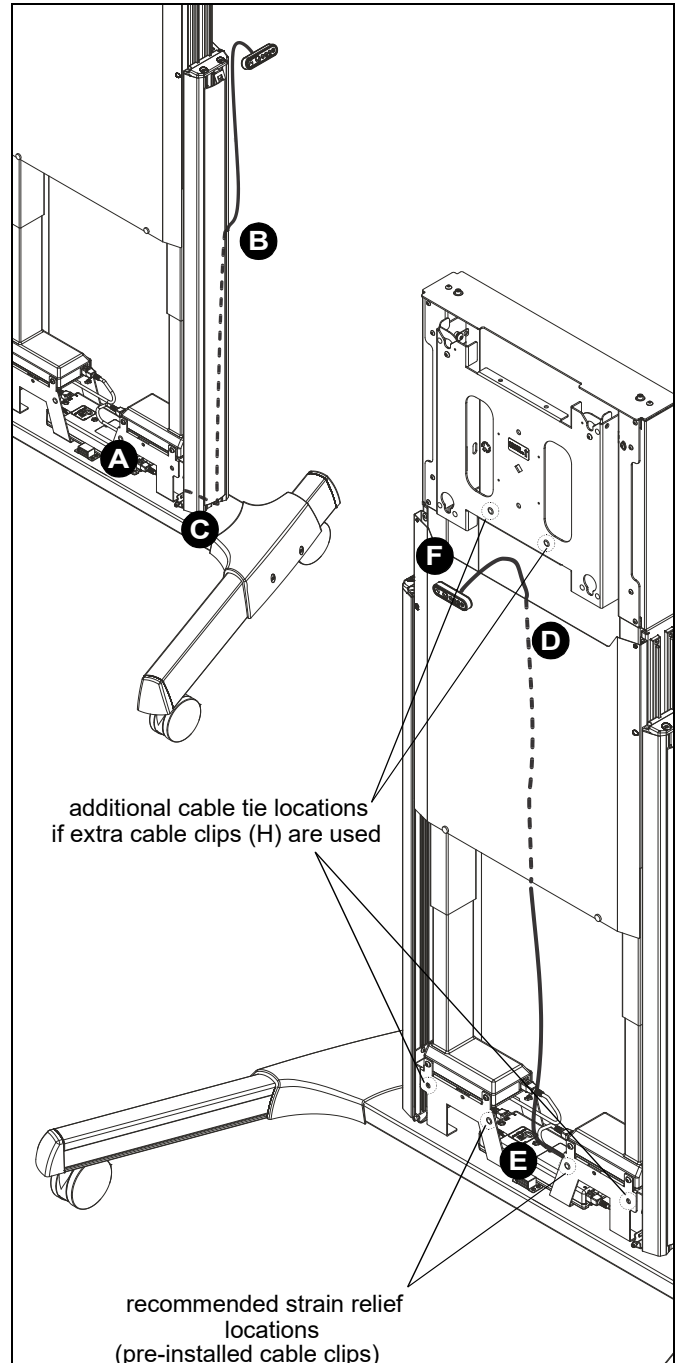

Figure 11
22. (Optional) Relocate control pad to the front center of display if desired following these steps. (See Figure 11)
- F. Use double-sided foam tape (R) to attach control pad to bottom of display in the center.